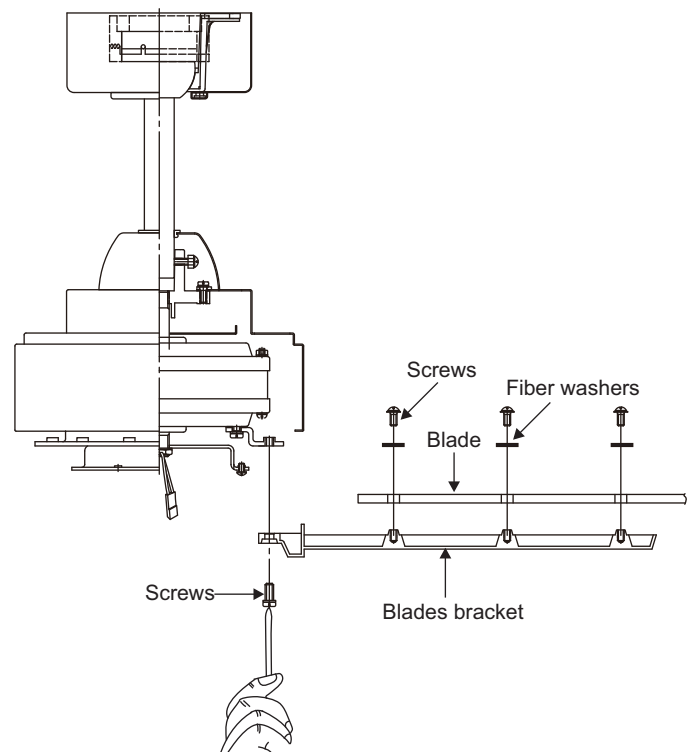

Figure 11
**Step 3.** Fasten blade assembly to motor using the screws supplied. (Fig. 11)